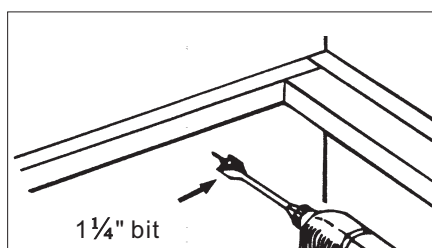

Fig.8
1. After turning off the proper 120 volt circuit at the service entrance, drill out the electrical power line access hole marked on the cabinet bottom or wall. Use a 1 1/4" wood bit. To operate the electric drill, use an extension cord connected to another circuit. (Fig.8)